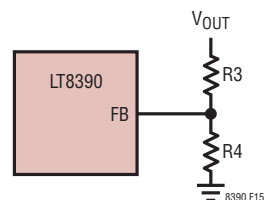

Figure 15. Feedback Resistor Connection
The LT8390 has a voltage feedback pin FB that can be used to program a constant-voltage output. The output voltage can be set by selecting the values of R3 and R4 (Figure 15) according to the following equation:
- Place  $C_{IN}$ , switch A, switch B and  $D_B$  in one compact area. Place  $C_{OUT}$ , switch C, switch D and  $D_D$  in one compact area. One layout example is shown in Figure 15.